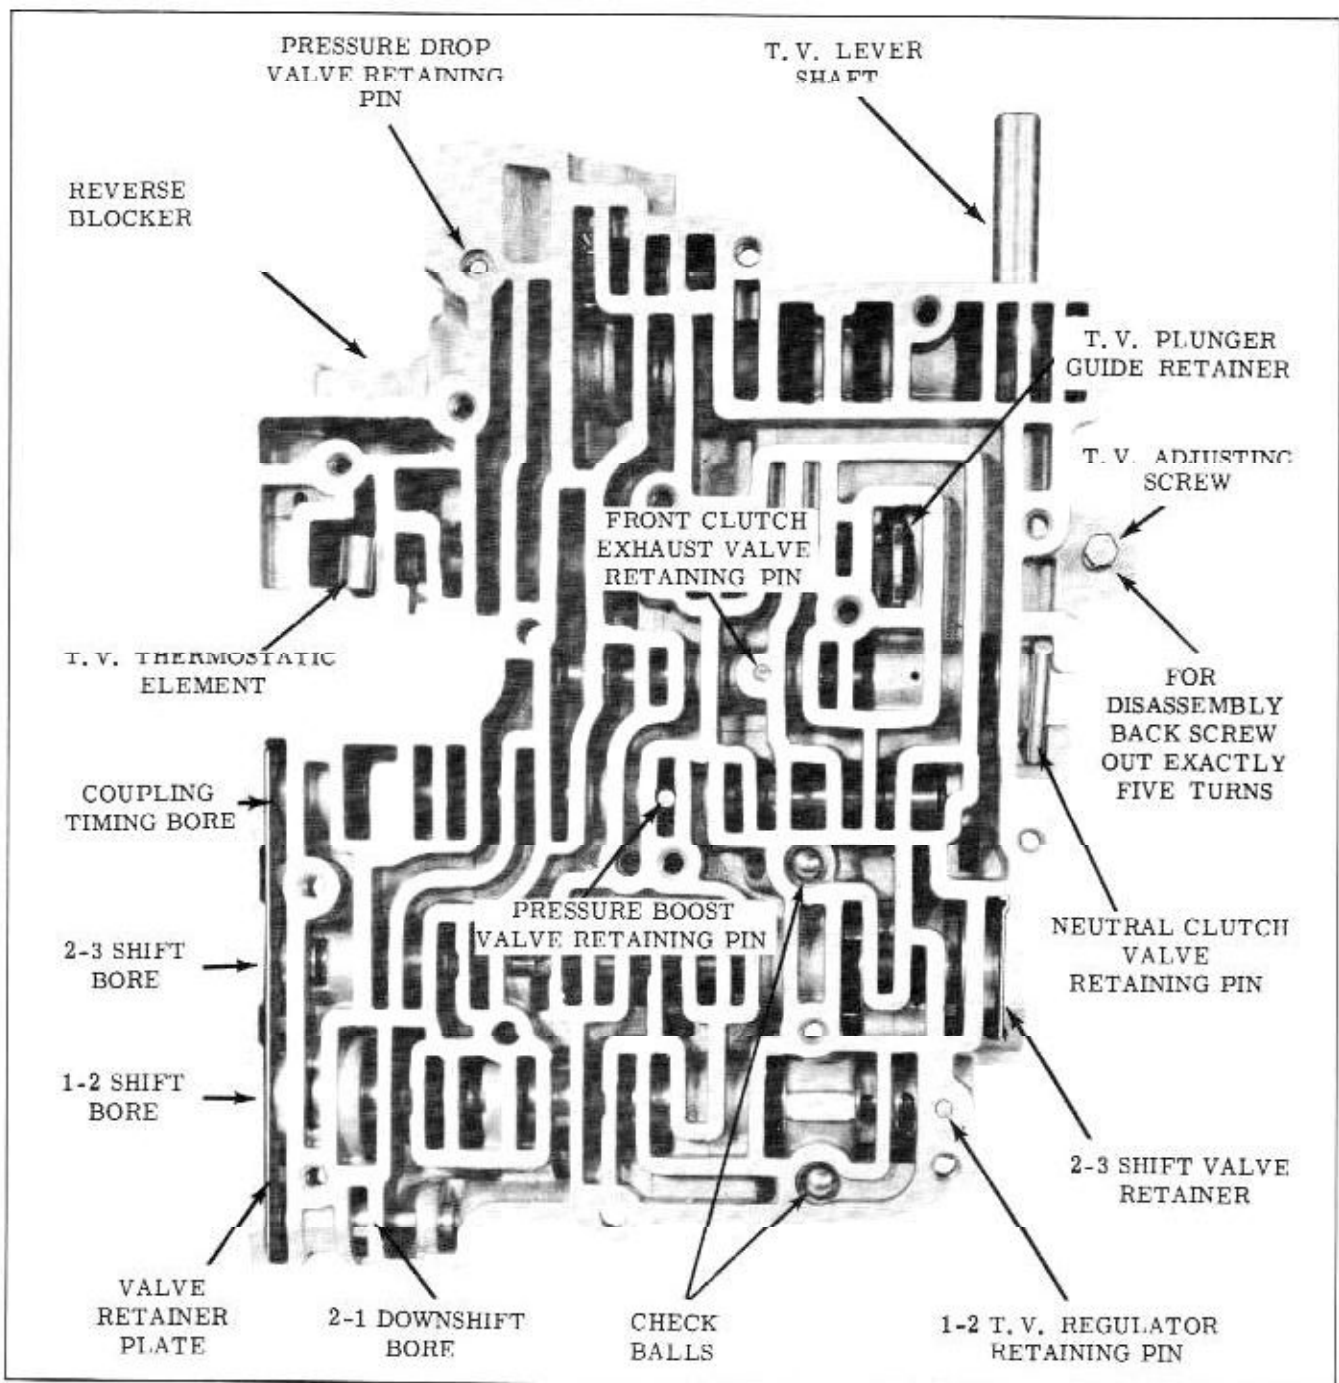

Fig. 3-95 Valve Body Assembly
6. Remove 2 check balls and the T.V. thermostatic element. (Fig. 3-95)
7. Remove T.V. plunger guide retainer located in cored passage near T.V. adjusting screw. Position control valve assembly with the cored side up and the T.V. lever positioned on the top right hand side. (Fig. 3-95)
27. Loosen T.V. adjustment screw EXACTLY 5 TURNS. (Fig. 3-95)
9. Turn T.V. adjusting screw back to original position, EXACTLY 5 TURNS. (Fig. 3-95)